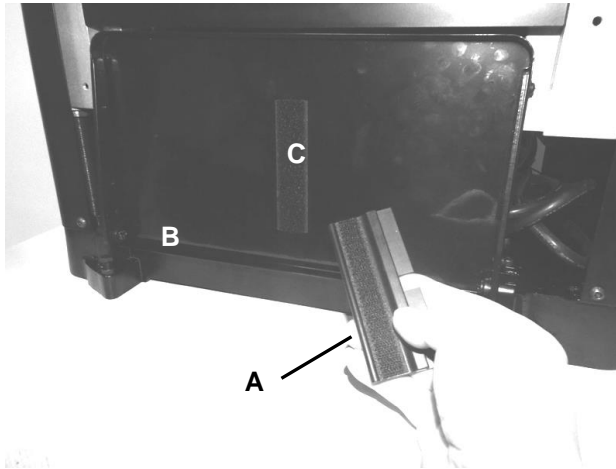

FIG 6
1. The knife removal tool (A) is supplied with your planer and attached underneath the outfeed table (B) with Velcro (C), you can storage the tool when it's not in use. SEE FIG 6 on the following page.